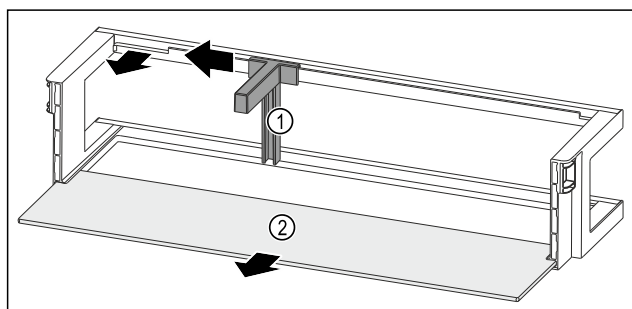

Fig. 142 Door rack with bottle holder and shelf
- Slide the bottle holder Fig. 142 (1) to the side as far as the recess.
- Remove the bottle holder Fig. 142 (1).
- Remove the shelf Fig. 142 (2).